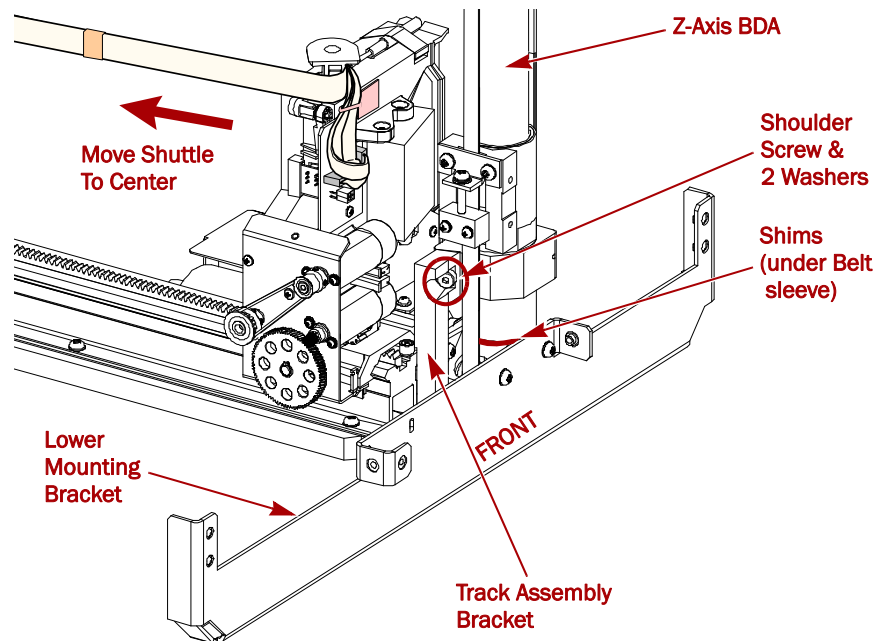

Figure 2-3: Location of Key Items
3. Detach the **track assembly bracket** from the BDA (Figure 2-3).